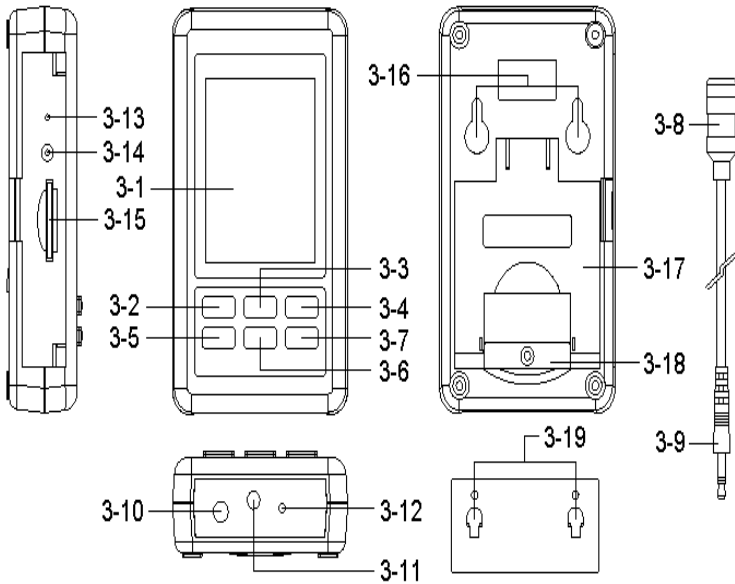

Fig. 1
- 1) Power ON the meter by pressing and holding the " Power Button " ( 3-2, Fig. 1 )for at least 1.5 seconds, the meter's default function is " A"( frequency weighting) , " Fast"( time weighting) " Auto range ". The LCD display will show the Symbol " A, FAST , xx.x dB , 0 ".
- 3) According to various measuring sound source, select the Time Weighting ( Fast or Slow ) by pressing " ENTER Button " ( 3-7 , Fig. 1 ).
- 1) In " SPL " mode to select the " **Dose** " mode by pressing and holding the " RUN button " ( 3-4 Fig 1 ) into the DOSE mode .
- 4) According to various measuring sound source, select the Time Weighting ( Fast or Slow ) by pressing the "ENTER Button " ( 3-7, Fig. 1 ).
During the SPL measurement, press the " ▲ Button " ( 3-3, Fig. 1 ) once will hold the measured value & the LCD will display a " HOLD " symbol.
1) The data record function records the maximum and minimum readings. Press the " RUN Button " ( 3-4, Fig.1 ) once to start the Data Record function and display is shown the " REC " symbol .
- a) Press the " RUN Button " ( 3-4, Fig. 1 ) once, the " REC MAX " symbol along with the maximum value will appear on the display. Press the " RUN Button" again the " REC MIN " symbol along with the minimum value will appear on the display. Press the " RUN Button" again will show the " REC " symbol only & execute the memory function continuously.
After power ON, the " LCD Backlight " will light automatically. During the measurement, press the " POWER Button " ( 3-2, Fig. 1 ) once will turn off the " LCD Backlight ".
Pressing and holding the " ENTER Button "( 3-7, Fig. 1 ) once , display is shown " LOGGER " , the " LOGGER " will flashing at the same time the measuring data along the time information will be saved into the memory circuit(EEPROM). and the top right will record items.
During execute the Datalogger function , if press the " ENTER Button " ( 3-7, Fig. 1 ) once will pause the Datalogger function ( stop to save the measuring data into the memory circuit temporality ). In the same time the text of " LOGGER " will stop flashing.
*If press the " ENTER Button " ( 3-7, Fig. 1 ) once again will execute the Datalogger again, the text of " LOGGER " will flashing .*
Press the " ENTER Button "( 3-7, Fig. 1) continuously at least two seconds, the " LOGGER " indicator will be disappeared and finish the Datalogger.
Prepare a " SD memory card " ( 1 GB to 16 GB, optional ), insert the SD card into the " SD card socket " ( 3-15, Fig. 1). The front panel of the SD card should face against the down case.
Pressing and holding the " ENTER Button ( 3-7, Fig. 1 ) once , the LCD will show the text " LOGGER " , then press the " ENTER Button "( 3-7, Fig. 1 ) once, the " LOGGER " will flashing at the same time the measuring data along the time information will be saved into the memory circuit.